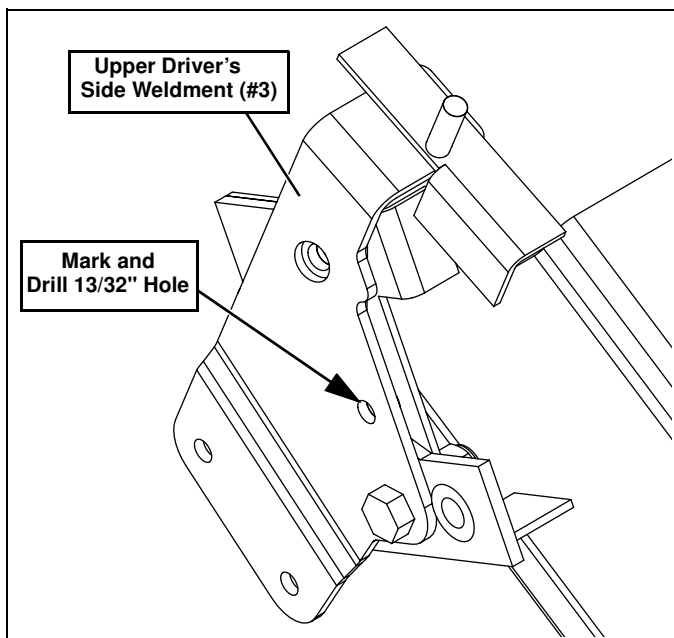

Figure 7
11. Mark the location of the center hole in the side of the Upper Driver's Side Weldment (#3). Remove the Upper Side Driver's Weldment (#3) and hardware installed in Steps 9-10. (See Figure 7.)